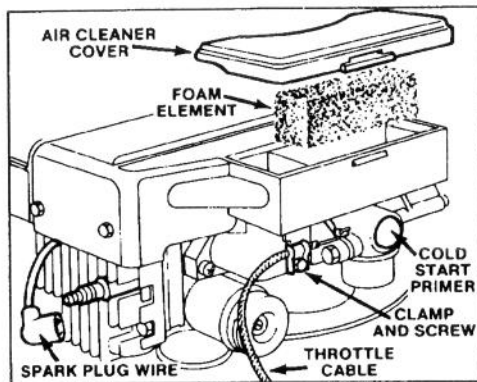

Figure 10
2. Lift off air cleaner cover and clean thoroughly (Fig. 10).
3. If top of foam element is dirty, remove it from air cleaner body (Fig. 10). Clean thoroughly.
1. Stop engine and pull wire off spark plug (Fig. 10).
2. Clean around spark plug and remove plug from cylinder head (Fig. 10).
3. Loosen cable clamp screw until throttle cable slides (Fig. 10). Move carburetor control arm as far to the left as possible. Pull throttle cable slightly to remove any slack and tighten cable clamp screw to lock adjustment in place.